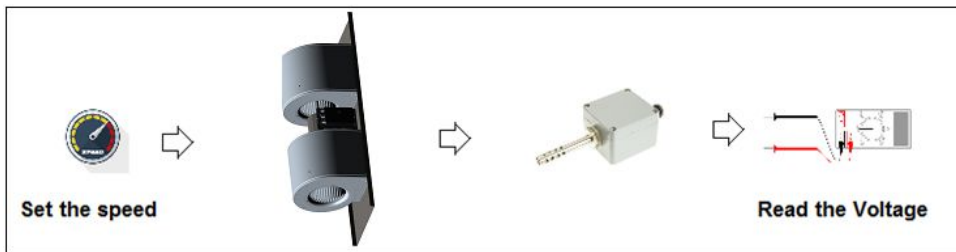

Fig. 15 – Find the PID Reference
- 3) In open loop set the fan speed at the desired performance and read the transducer voltage value (Fig.15)